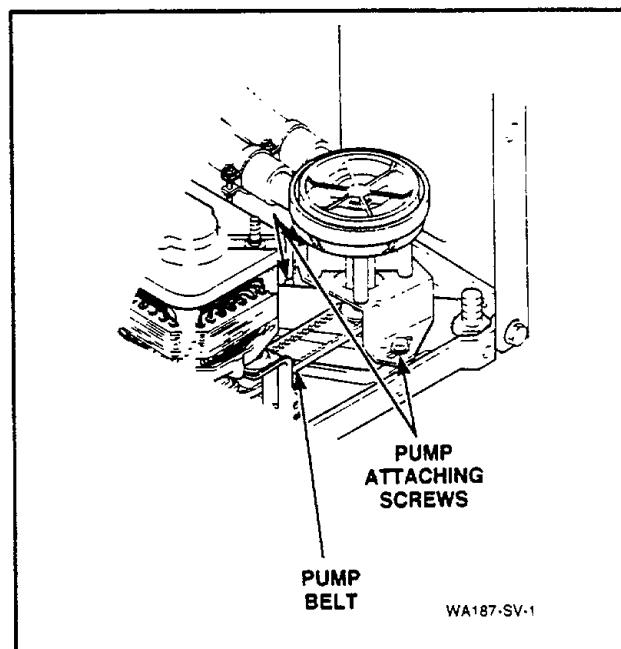

Figure 70
- Loosen front mounting screw, *Figure 70*, then loosen the two rear screws.
- After belt tension is obtained, tighten pump attaching screws, *Figure 70*.